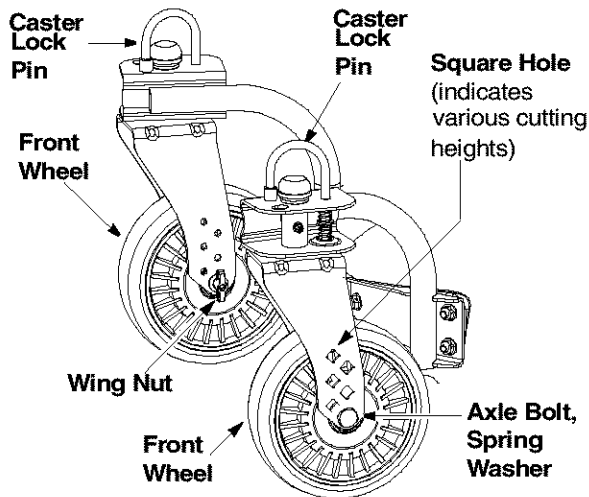

Figure 13
- Remove the wing nut from the axle bolt. See Figure 13. Slide the axle bolt and spring washer from the assembly and select a cutting height.
The casters can be locked in a straight ahead position or position to swivel freely. See Figure 13.